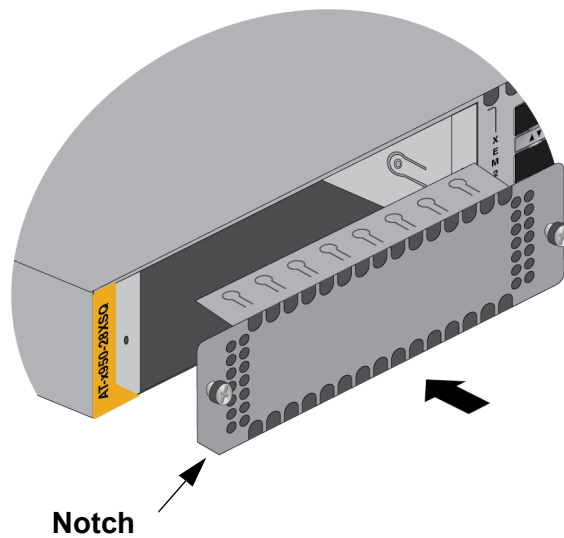

Figure 141. Installing the Line Card Blank Cover
9. Orient the blank cover as shown in Figure 141, with the notch on the bottom left, and slid it into the slot.